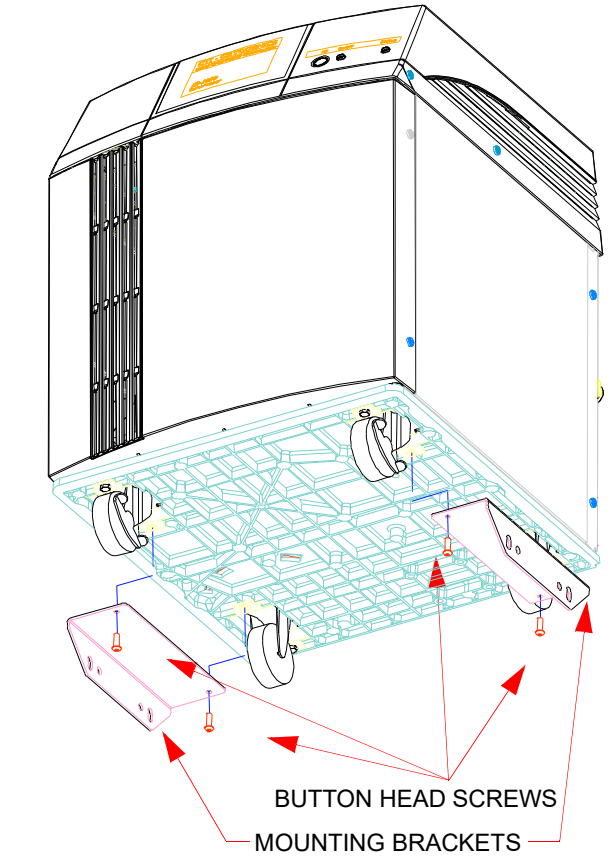

Figure 2: installing the /S-1000 Compressor Seismic Mounting Brackets
3. Use a 1/8” allen wrench to attach the IS-1000 Compressor Seismic Mounting Brackets (Edwards Vacuum part number 8186348P001 0) using two button head screws (Edwards Vacuum part number 7000118P001) as shown in Figure 2. The seismic mounting brackets are now securely attached to the /S-1000 Compressor.